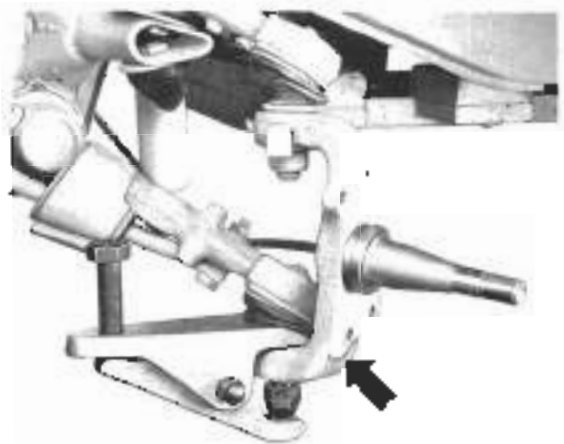

Fig. 6-3. Ball joint being pressed loose in steering knuckle assembly.
- 7 Remove the M 12 self-locking nut from the lower suspension ball joint stud. Then install an M 18 x 1.5 cap nut and press the ball joint loose as shown in Fig. 6-3.